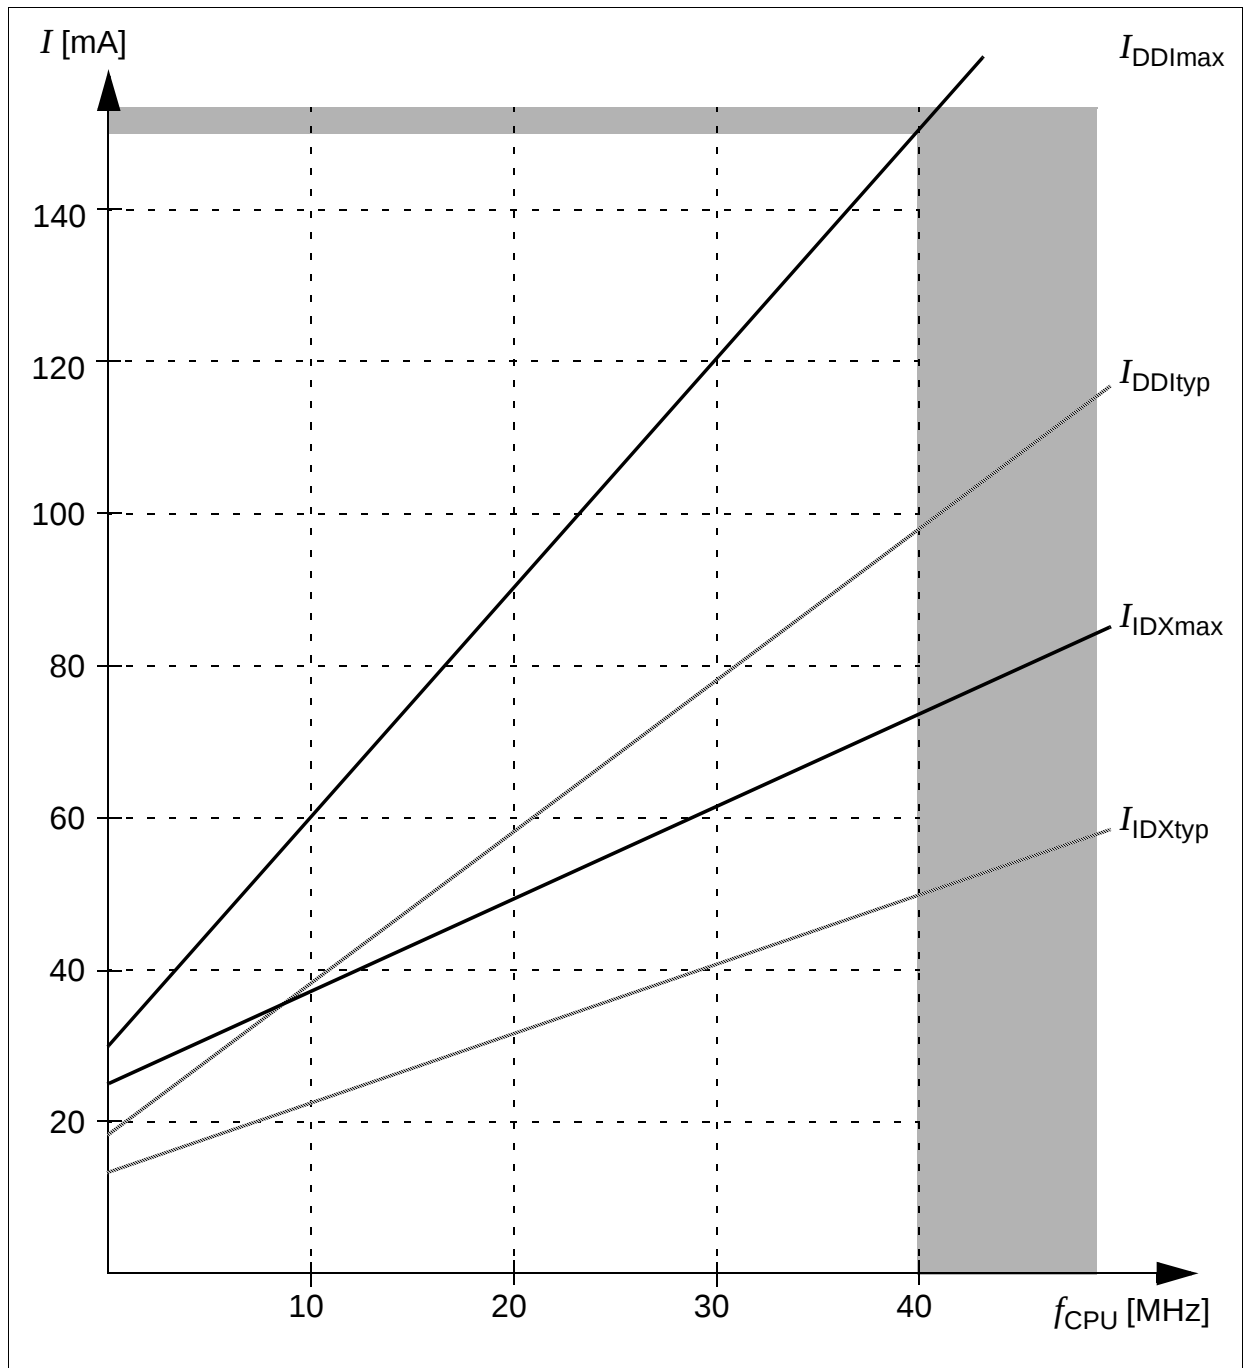

Figure 10 **Supply/Idle Current as a Function of Operating Frequency**
- ²⁾ The supply current is a function of the operating frequency. This dependency is illustrated in Figure 10. These parameters are tested at V_{DDImax} and maximum CPU clock frequency with all outputs disconnected and all inputs at V_{IL} or V_{IH} . The V_{DDP} pins only draw leakage currents if no output is toggling. Otherwise, the respective charging current must be delivered.